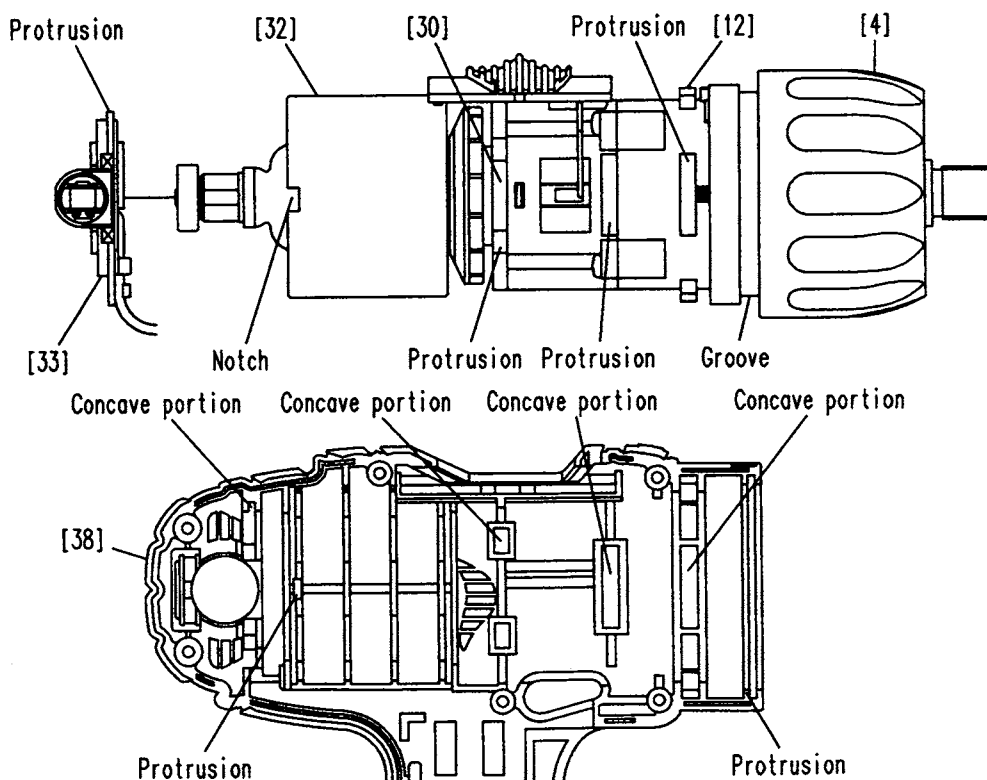

Fig. 17
(6) Reassembly of the main unit
(a) Mount the power supply unit and the drive unit that were reassembled in the above procedure to Housing (A) [38]. At this time, align the protrusions of the Brush Block [33], Front Case [12] and Motor Spacer [30] with the concave portions of Housing (A) [38], the notch of the Magnet [32] with the protrusion of Housing (A) [38], and the groove of the Front Cap [4] with the protrusion of Housing (A) [38] (see Fig. 17).